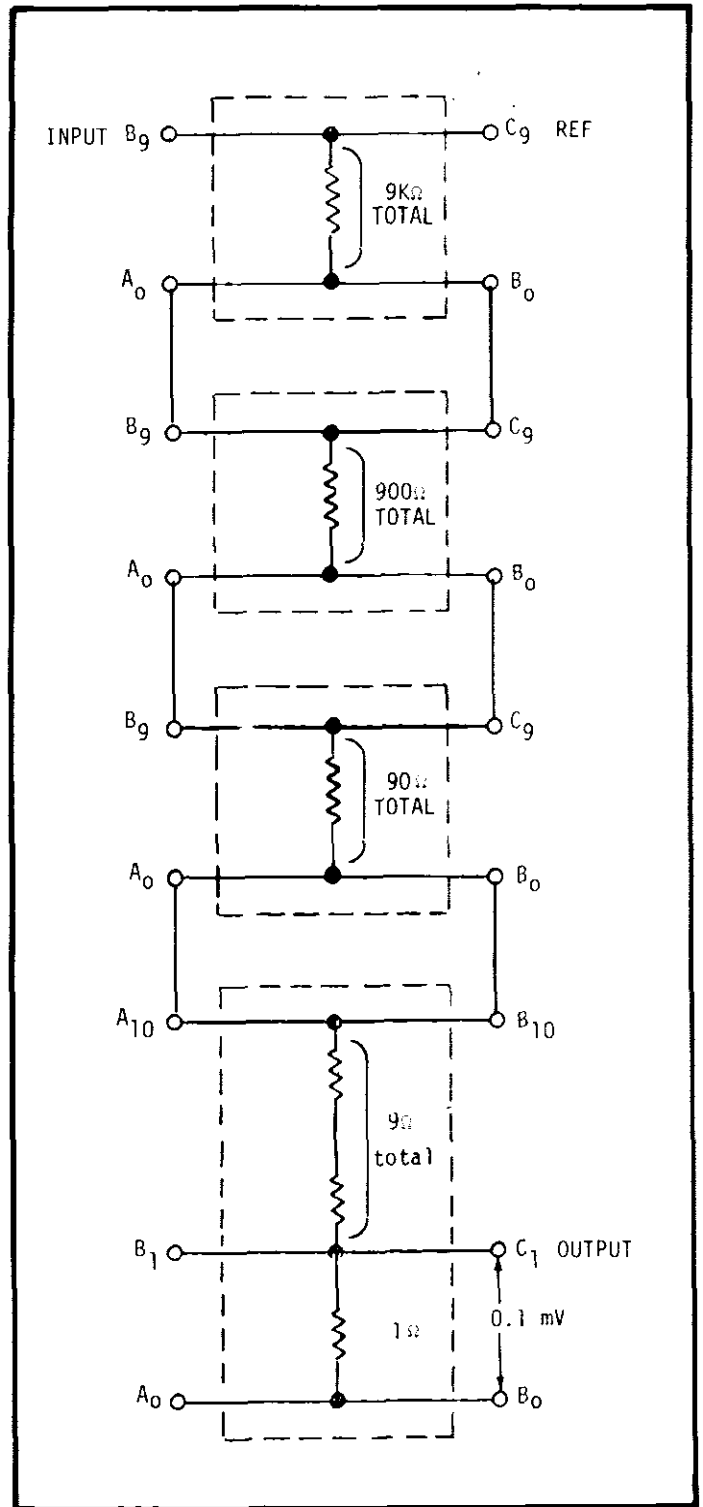

FIGURE 41. Voltage Divider Connections, 0.1mV Output.
- a). Connect Voltage Divider for 1:10,000 division ratio as shown in Figure 41.